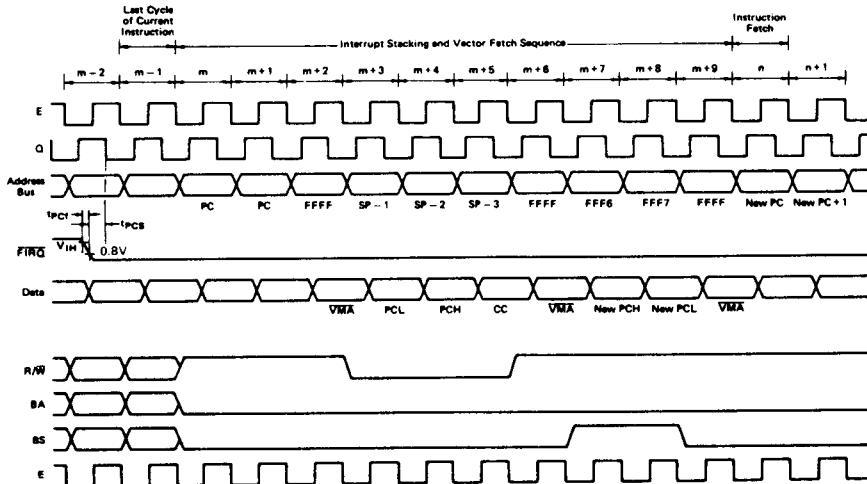

Figure 10 $\overline{\text{FIRQ}}$ Interrupt Timing
A "Low" level on this input pin will initiate a fast interrupt sequence provided its mask bit (F) in the CC is clear. This sequence has priority over the standard Interrupt Request ($\overline{\text{IRQ}}$), and is fast in the sense that it stacks only the contents of the condition code register and the program counter. The interrupt service routine should clear the source of the interrupt before doing an RTI. See Fig. 10.